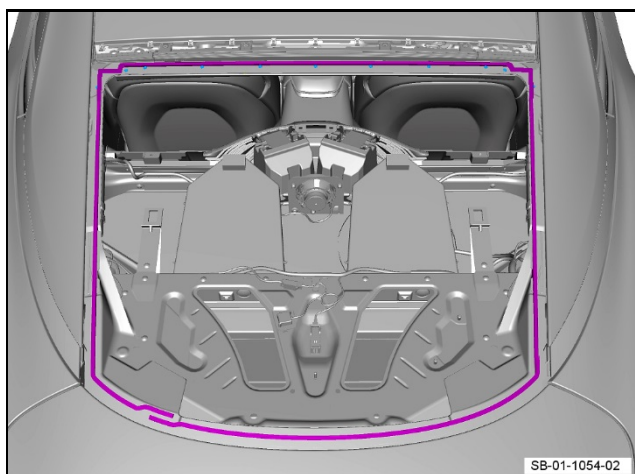

Figure 7
14. Apply sealant to the body as shown (Refer to Figure 7).